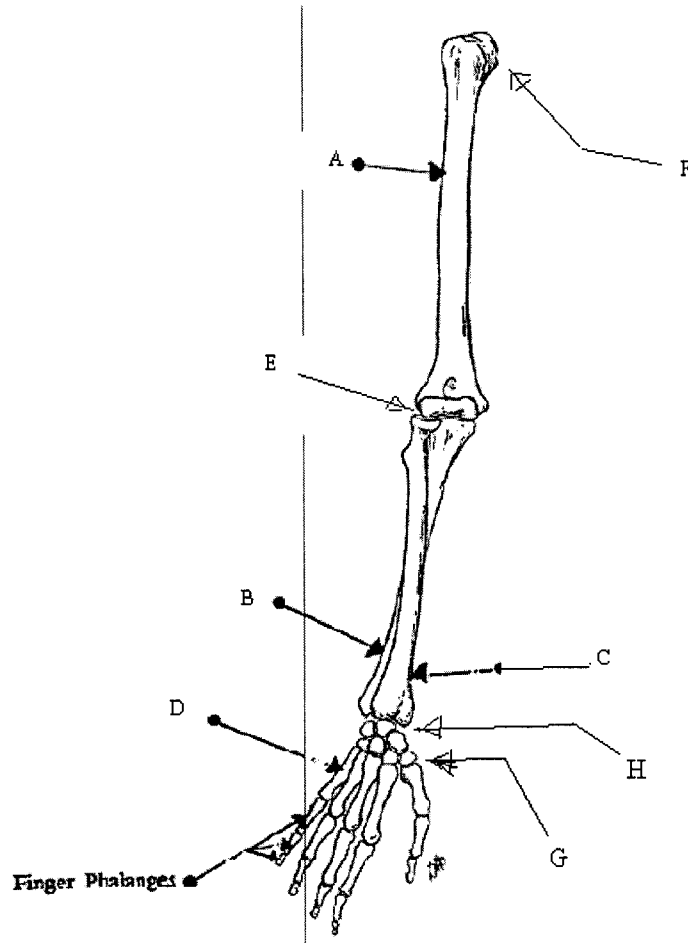

Figure 1: Upper limb bones
- 1.1 According to Figure 1, What are names of bones A, B, C, and D? (4 points)
2.1. According to Figure 1, What kind of joint at location E, F, G and H? (4 points)